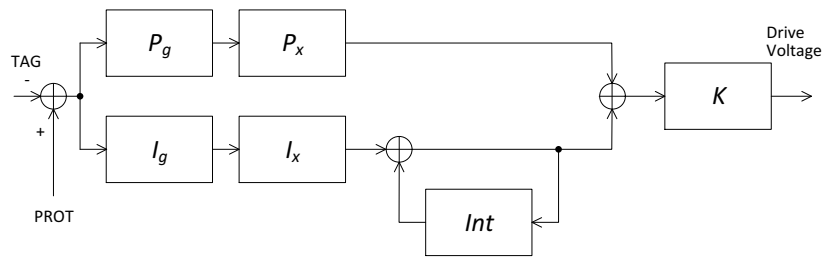

Figure 18. PI Speed Controller Block Diagram
Closed loop motor rotation speed controller (PI) is provided. The block diagram is shown in Figure 18.